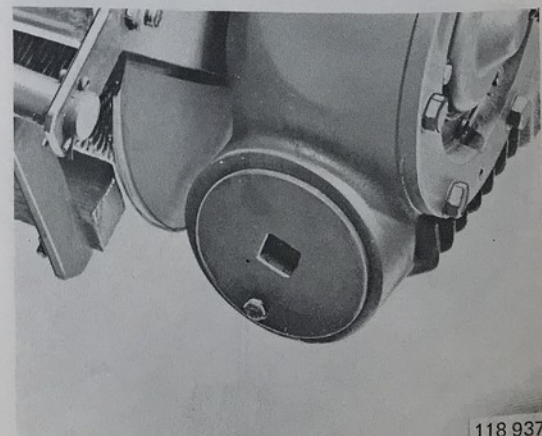

Fig. 92-29. Gear housing
2. Clean round the rear cover, see Fig. 92-29, and screw it out. When the cover is being removed, the washer springs and a spacer ring as well as an outer ring for the worm roller bearing will also accompany it.